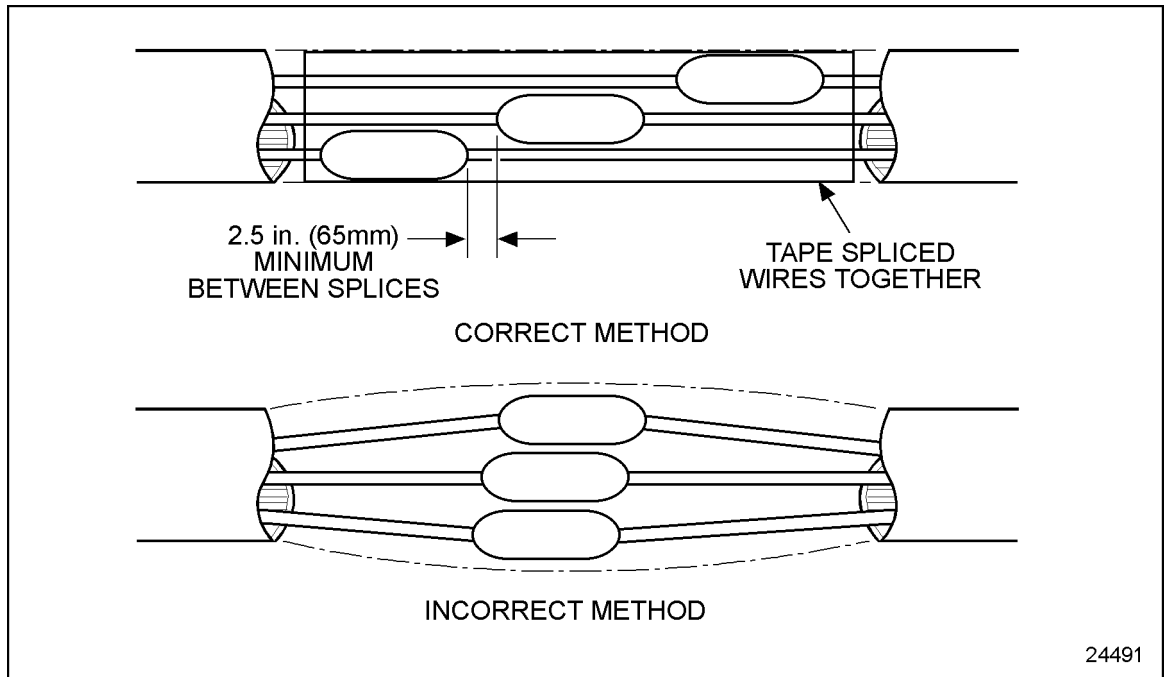

Figure 3-64 The Correct and Incorrect Method of Staggering Multiple Splices
1. Stagger the position of each splice (see Figure 3-64) so there is at least a 2.5 in. (65 mm) separation between splices.